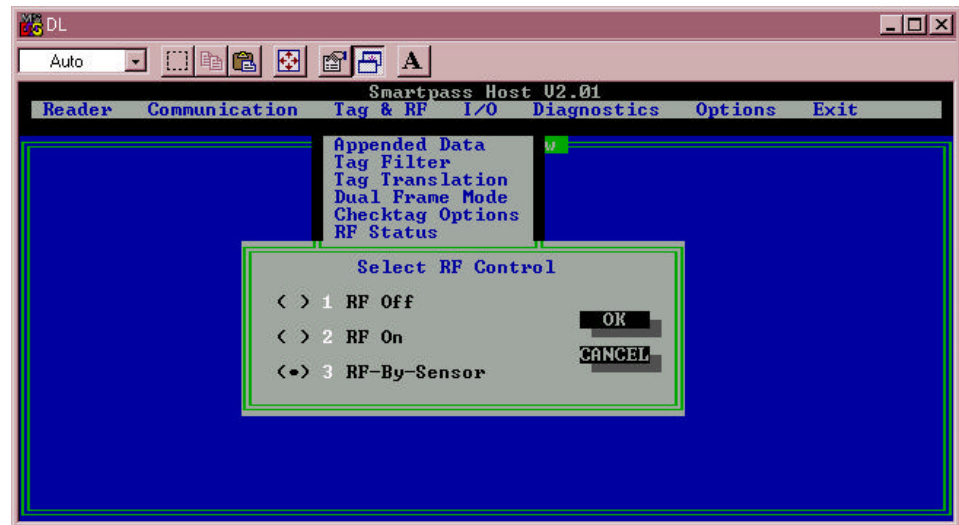

Figure 4-21 Set Sensor Control of RF
1. Select the **RF Control** option from the **Tag & RF** pull-down menu. This displays the **Select RF Control** dialog box shown in Figure 4-21.